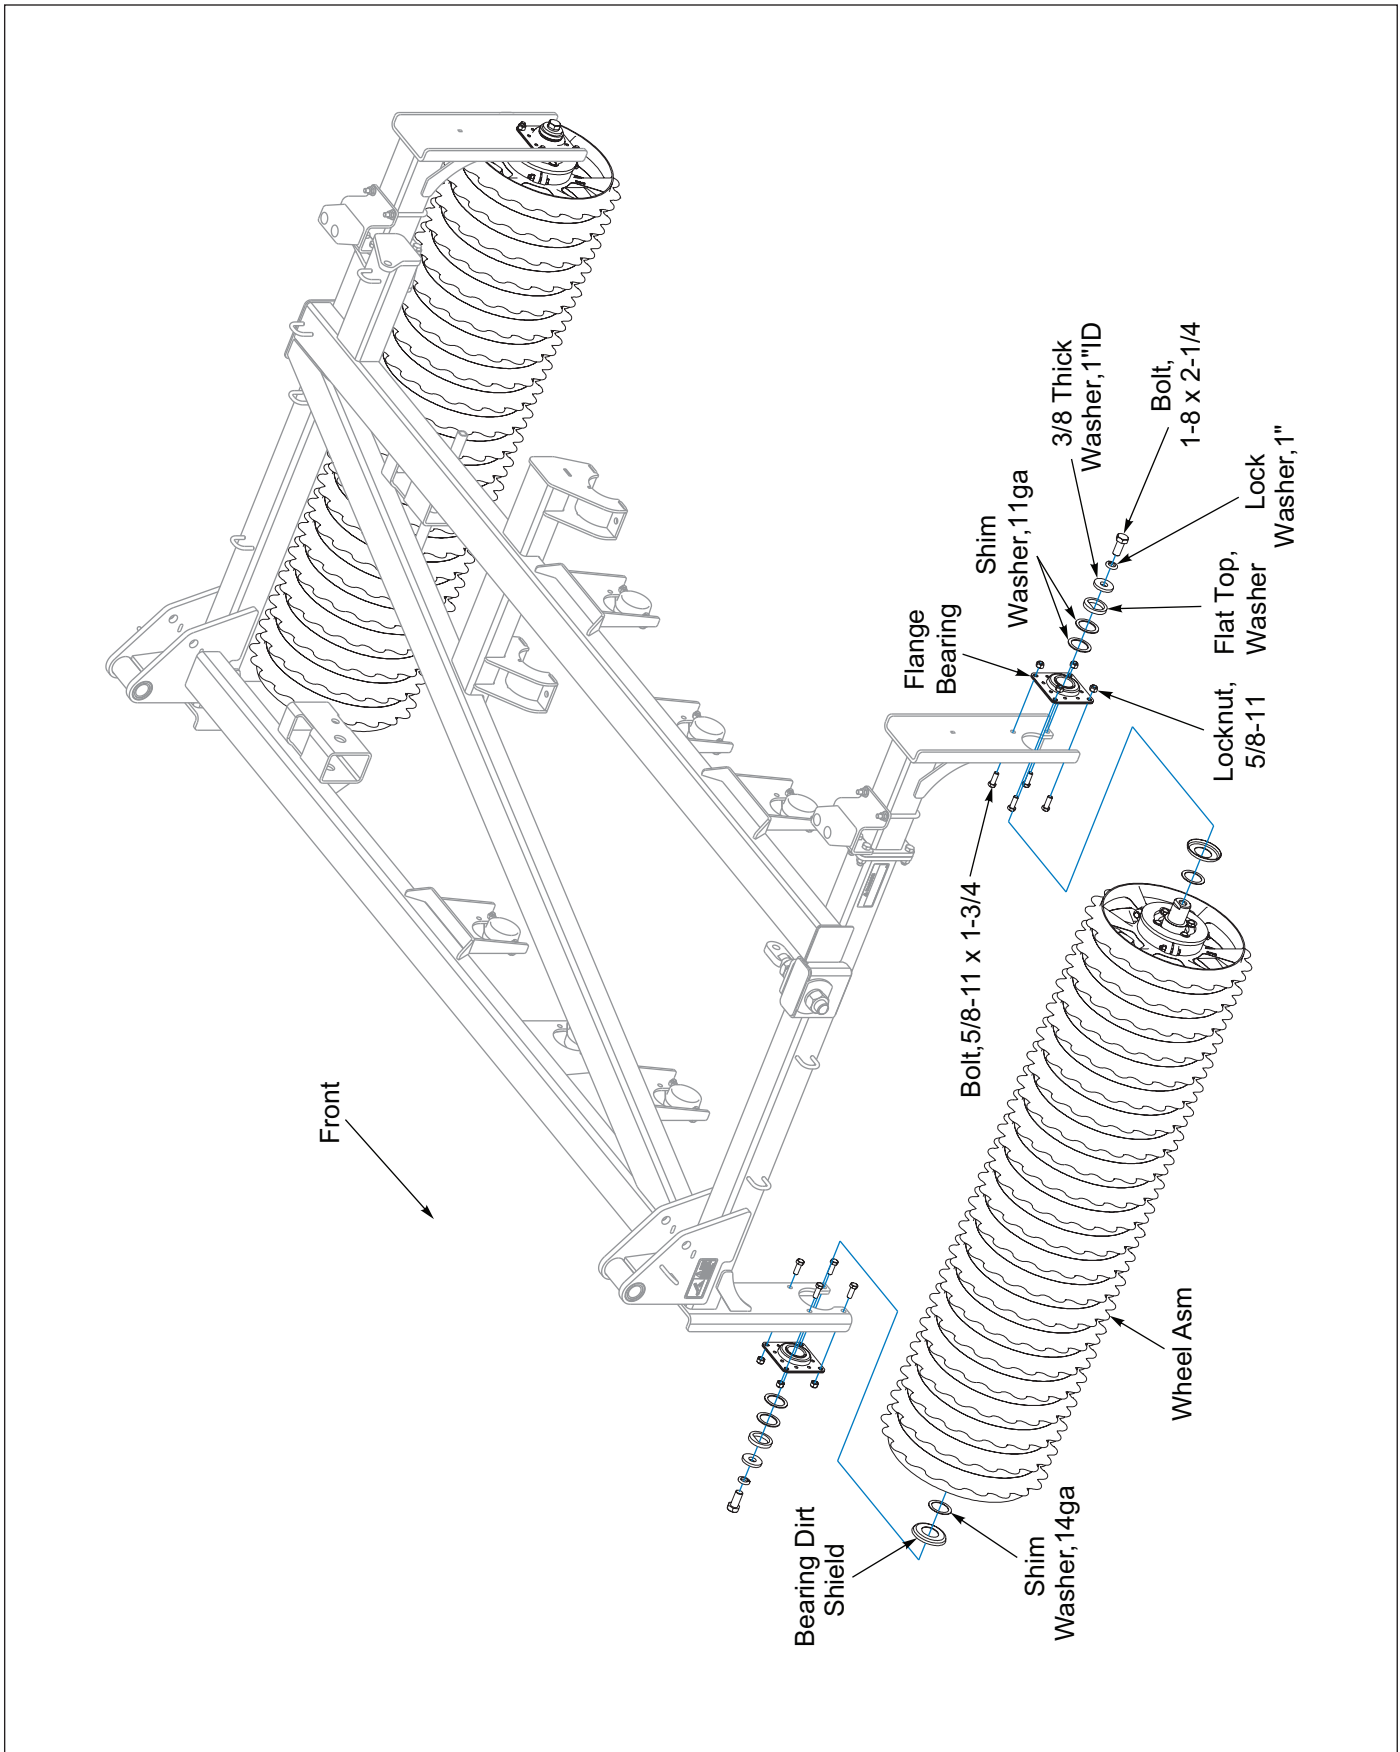

Figure 2-48: Left Hand Wing Roller Installation
2. Insert 5/8-11 x 1-3/4 Bolts into Frame Bearing Hanger. Place a Dirt Shield on each end of the Roller Stub Shaft so that the cupped portion will be towards the Bearing. Slide the Bearing onto the Roller Stub Shaft. Lift up while supporting the Roller Assembly so that the Bearing can be assembled with Locknuts onto the outside of the Frame Bearing Hanger. Bearings should be tight against the Bearing Hanger. Push the Dirt Shield against the Bearing inner ring and check the gap on each end between the Dirt Shield and Roller Stub Shaft Shoulder. Remove Bearing and add Shim Washer(s) as necessary. **See Figures 2-48 and 2-49.** The bearing inner ring has an internal rubber mount to allow for up to 1/16" of excess gap.